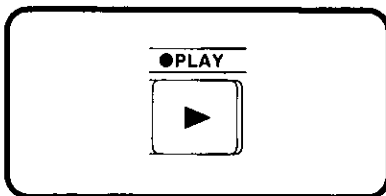

Fig. 3
- The image may appear as shown in Fig. 3 or its top part may appear distorted: this is normal and not indicative of a failure.